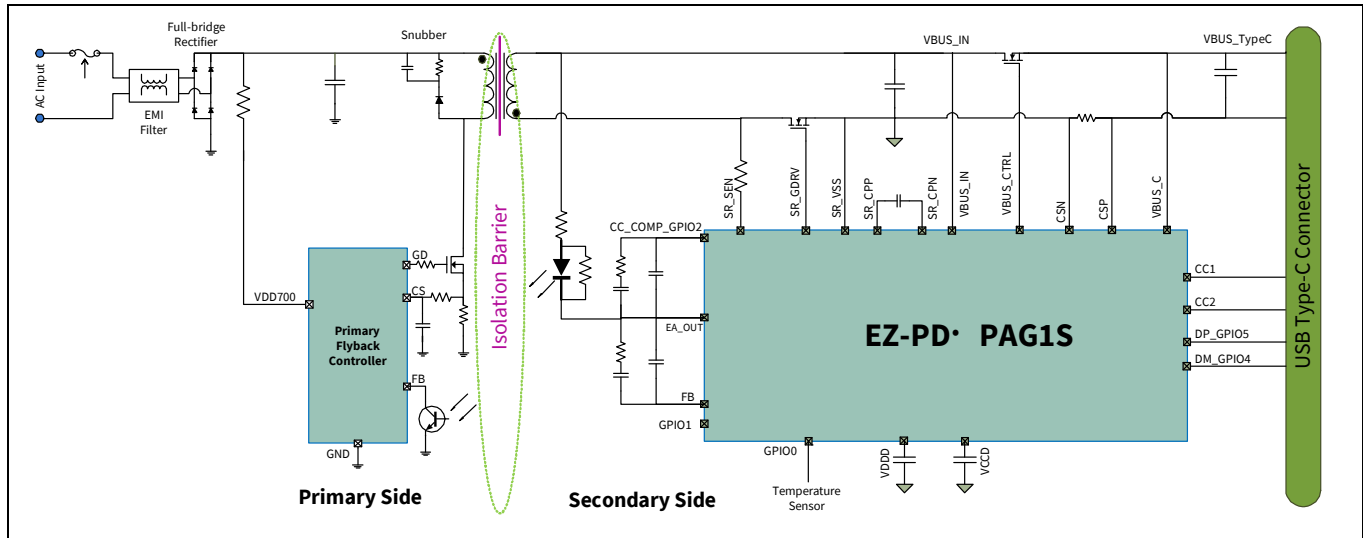

Figure 4 Power adapter with primary side control application diagram
EZ-PD™ PAG1S integrates two error amplifier blocks which handles secondary output sensing and regulation for CV and CC modes. This block is responsible for both constant voltage and constant current operations. The output of the error amplifier is routed to the EA_OUT pin. EA_OUT can further drive an opto-isolator to provide feedback to the primary controller. The negative input of the error amplifier is the feedback (FB) pin and the positive input is internal reference of 0.744 V. The FB pin has internal resistor divider of 200 kΩ and 35 kΩ, this divider sets a default voltage of 0.744 V at FB pin when VBUS_IN is at 5V. Based on the desired VBUS_C output, the voltage at the FB pin will be varied using internal current source/sink IDACs. An external compensation network is required between FB pin and EA_OUT pin, as shown in Figure 4.
Constant current operation makes use of an internal LSCSA, the output of which feeds into an independent error amplifier as shown in Figure 4. EZ-PD™ PAG1S error amplifier can ensure constant voltage regulation over 3.3 V to 21.5 V range and constant current regulation over 1 A to 3 A as required by the USB PD PPS specification.
Figure 4 shows a power adapter application diagram implementing a primary side controlled synchronous flyback system. In this system, EZ-PD™ PAG1S engages the error amplifier to take the feedback from the secondary side and pass it on to the primary controller over an isolation barrier like an opto-isolator. The primary side controller can be any standard flyback controller. In this topology, EZ-PD™ PAG1S integrates three key features: secondary side sensing and regulation, SR, and charging port controller.